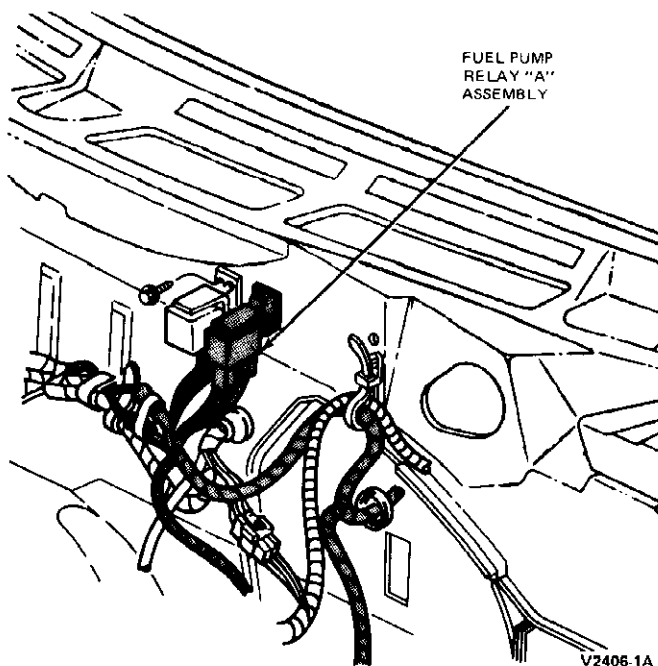

FIG. 7 Relay "A" Location
4. Disconnect lead to oil pressure switch "B" at relay "A" (W-R). Turn ignition switch to RUN position and watch for fuel pressure. If no fuel pressure is present, check for 12V at relay "A" connector (red/light green wire). If no current, trace circuit back to source (Fig. 7).